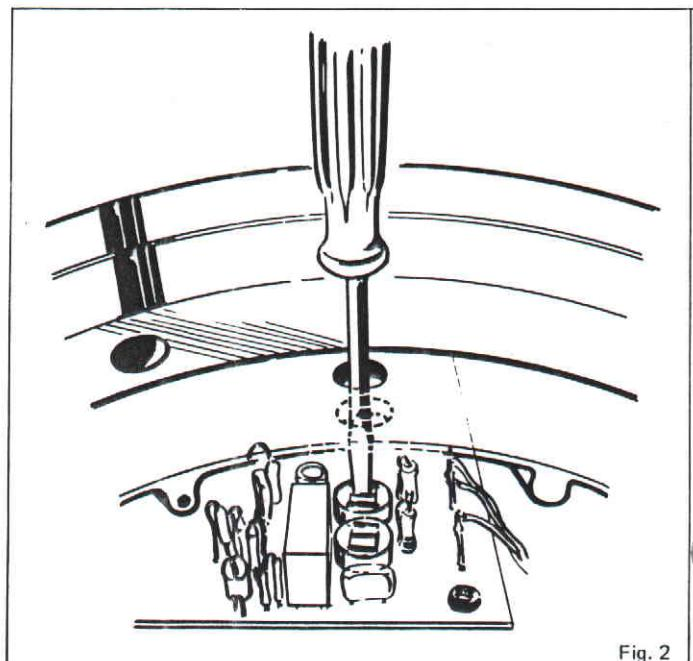

Fig. 2
5. Alternate switching between 33 and 45 rpm speeds while making adjustment. Make sure that both speeds are correct. (Fig. 2)